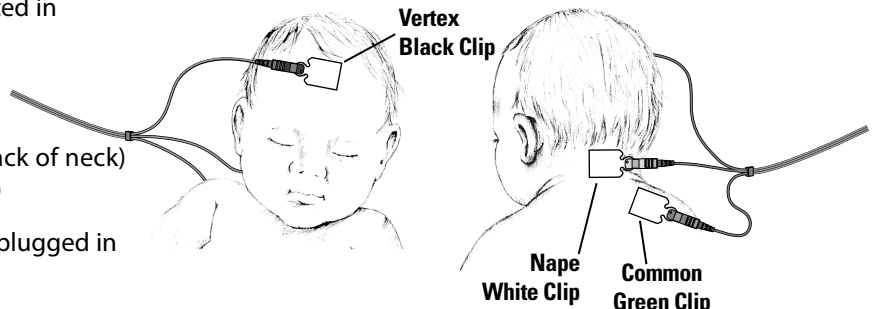

FIGURE 3
- Ensure that the sensors with colored cable clips are correctly placed and firmly attached to the baby's skin with the tab section of all three sensors pointed in the same direction (Refer to Figure 3).
- b. Ensure correct sensor placement (Refer to Figure 3 on reverse side).